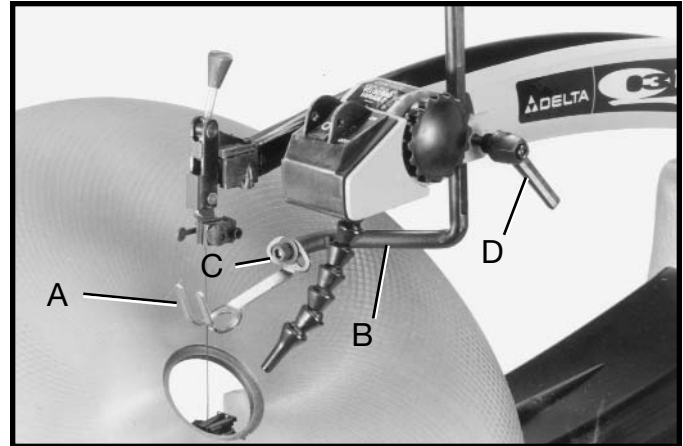

Fig. 10
1. With wrench supplied, assemble holddown foot (A) Fig. 10, to rod (B) using 1/2" hex socket head screw (C) with lockwasher and flat washer. Prongs of holddown foot (A) should straddle blade.
2. Adjustment to holddown rod (B) Fig. 10, can be made by loosening lock handle (D) and raising or lowering rod (B). Tighten lock handle (D). NOTE: Lock handle (D) Fig.10, is spring-loaded and can be repositioned by pulling outward on the handle and repositioning it on the stud located underneath the hub of handle (D).